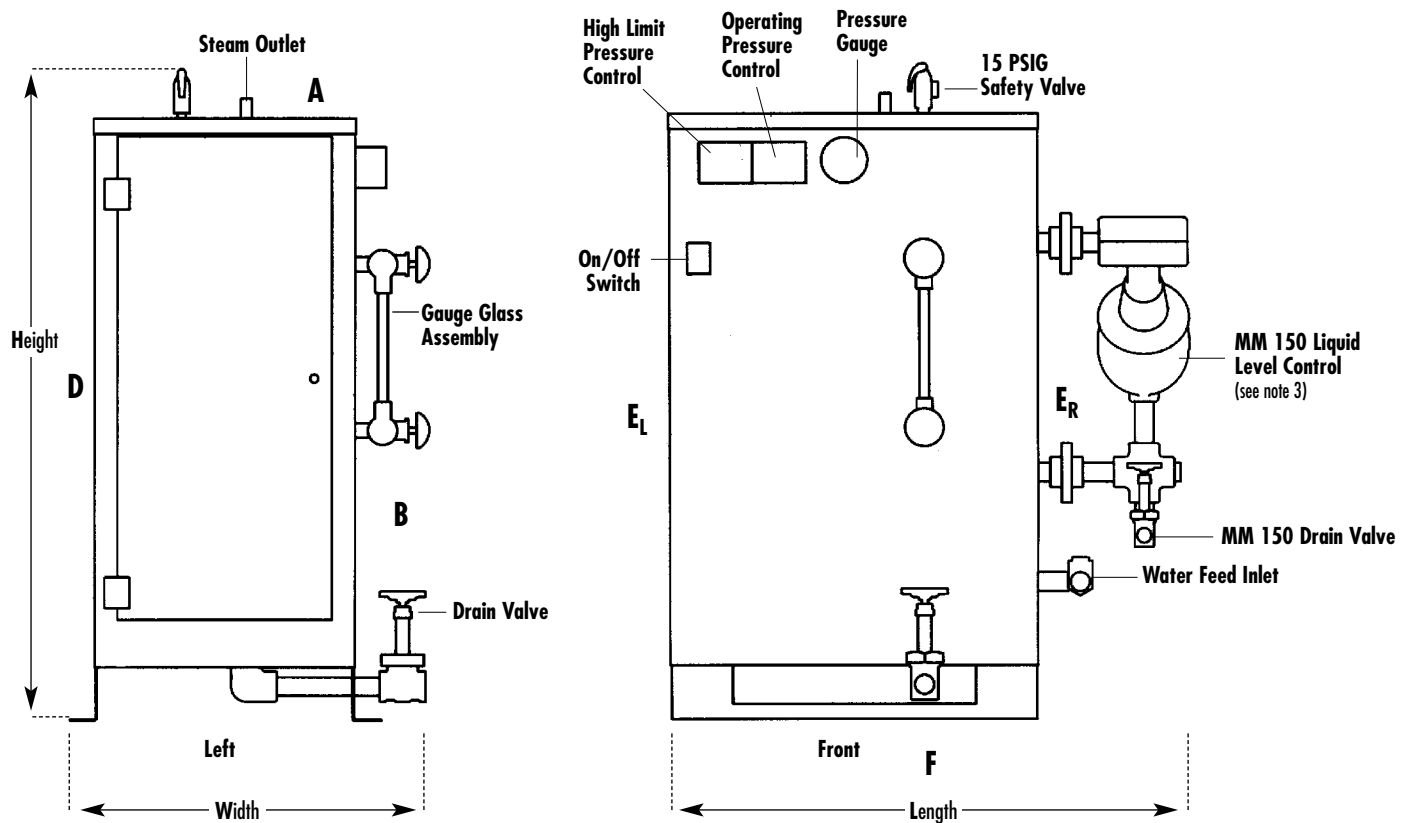

Figure 2: Typical Arrangement. For illustration purposes only. Refer to all notes below
NOTES for Figure 2:
- 4. IMPORTANT: Minimum clearance from combustable surfaces.** Refer to Fig. 2 above for legend.